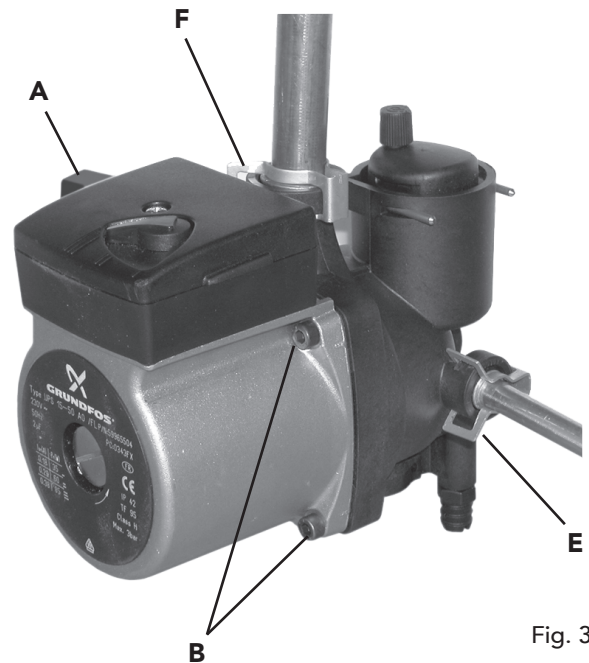

Fig. 36
7.12 Pump (fig. 36)
Replacement of pump body (fig. 36)